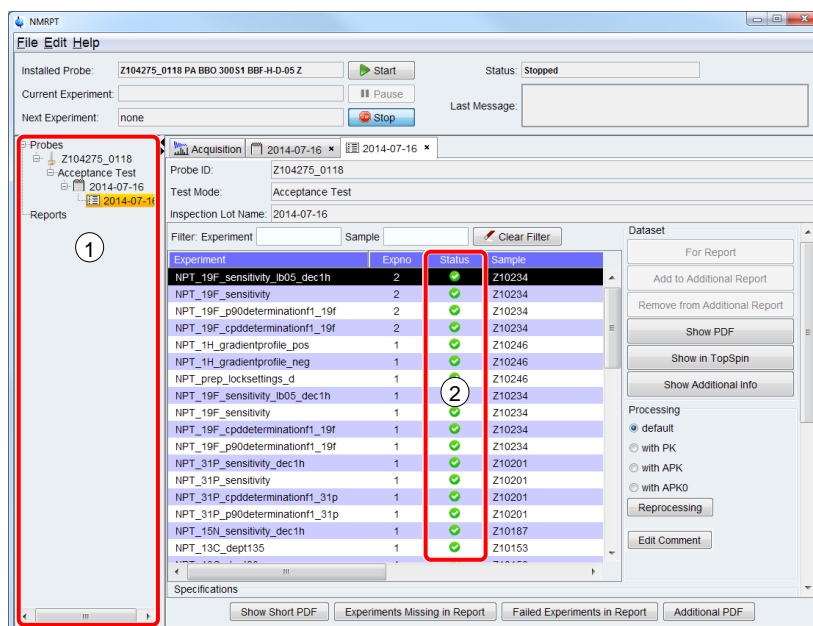

Figure 3-15: Check of experiments on Results tab
- Open  **Results** tab from **Navigation** (Figure 3-15 (1)): The Results tab is a sub-item of the Inspection Lot. Expand the Inspection Lot item and click the Results item to open. While the Queue is acquired, the results will appear one after another.
21. Check if all experiments were successful. Success is indicated by a green icon  in **Status** column (Figure 3-15 (2)).